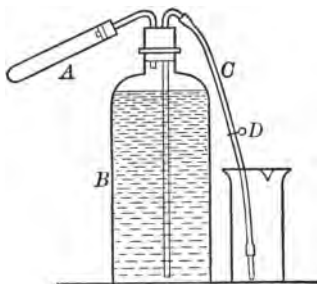
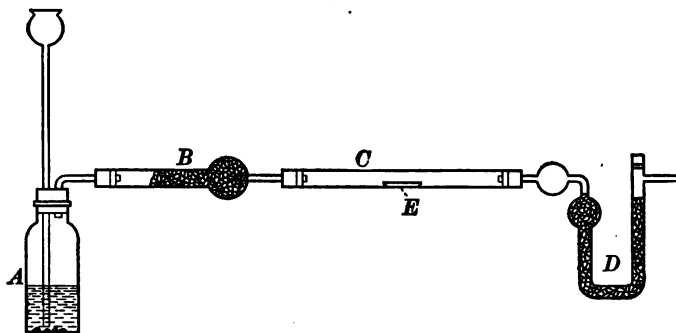

FIG. 23
FIG. 26
**31. Percentage of oxygen in potassium chlorate; weight of 1 liter of oxygen.** Prepare the apparatus shown in Fig. 23.  $A$  represents the hard-glass test tube used in the preparation of oxygen,  $B$  is a common narrow-mouthed bottle, having a capacity of about 1 liter. The
Now thoroughly clean and dry the tube  $A$ , and carefully weigh it; then introduce about 1 g. of potassium chlorate into the bottom of the tube by means of a folded paper (Fig. 15), and reweigh. Attach the tube, as shown in Fig. 23, care being taken to have the apparatus air-tight. The pressure of the air within the bottle is now adjusted to that of the air outside, as follows: Water is added to the beaker (if necessary) until the end of the glass tube is covered. The screw clamp is then opened and the beaker at once raised vertically
until the water in the beaker is at the same level as the water in the bottle; then the screw clamp is closed. Empty the beaker, and return it to the position shown in Fig. 23. Now open the screw clamp and apply a gentle heat to the potassium chlorate. Oxygen is evolved and forces the water from the bottle into the beaker. Gradually increase the heat, and continue the heating until all the oxygen has been expelled. Let the apparatus stand until it has acquired room temperature, care being taken that the glass jet is kept below the surface of the water in the beaker (why?). Now bring the level of the water in the beaker to that of the water left in the bottle, and, while holding it in this position, close the screw clamp (why?). Carefully measure the water in the beaker; also take the readings of the thermometer and the barometer. Disconnect the tube *A*, and carefully reweigh the tube and its contents. Insert the values in the following table:
**38. Quantitative synthesis of water.** Arrange an apparatus as shown in Fig. 26, in which *A* represents the hydrogen
When the apparatus has acquired the room temperature, disconnect *A* and attach *D* (Fig. 26) to the short bent glass tube in bottle *B* of Fig. 23. The bottle is filled with water, and a portion of it is slowly siphoned over through *C*, *D* (Fig. 23). In this way a current of air is drawn through the apparatus, displacing the hydrogen. Finally, disconnect the apparatus, and at once close the ends of the tube *D* (Fig. 26) with the rubber tubes provided with glass rods. Weigh the boat and contents; also the tube *D*. From your results calculate the composition of water.
**45. Determination of the percentage of oxygen in the black oxide of copper.** Use the apparatus shown in Fig. 26, except that a short glass tube is substituted for the tube *D*. Accurately weigh two porcelain boats, introduce different weights of black copper oxide, and reweigh. Place the boats in the glass tube and proceed with the experiment in accordance with § 38. Apply the heat first to the boat nearest the hydrogen generator. Continue the heating for fifteen or twenty minutes, in order completely to reduce the oxide. After the apparatus has cooled, weigh the boats and calculate the percentage of oxygen in each sample of the oxide. What do the results show?